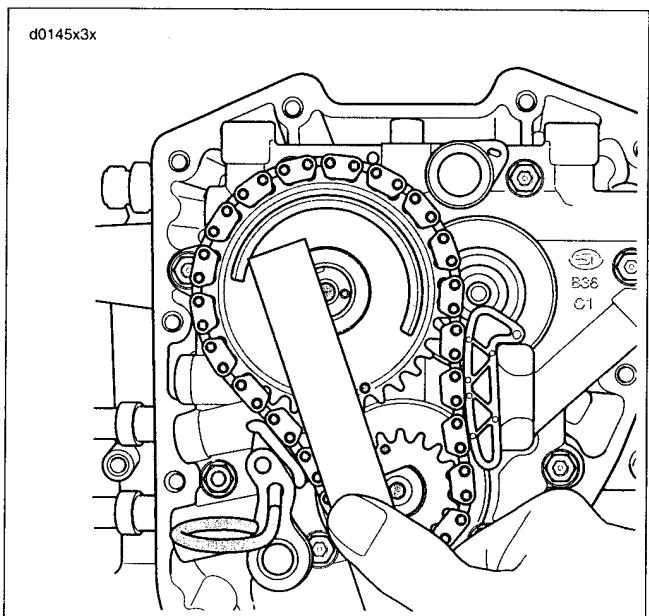

Figure 3-74. Verify Alignment of Crank and Rear Cam Sprocket Punch Marks
- Place the crank sprocket (5) in the opposite end of the chain with the punch mark on the sprocket tooth facing straight upward.
13. See Figure 3-74. Rotate the rear cam sprocket in a clockwise direction until the punch mark on the root is aligned with the punch mark on the crank sprocket tooth. Lay a straightedge across the centerline of the crank and rear cam sprocket flange bolt holes to verify that the punch marks are in alignment.